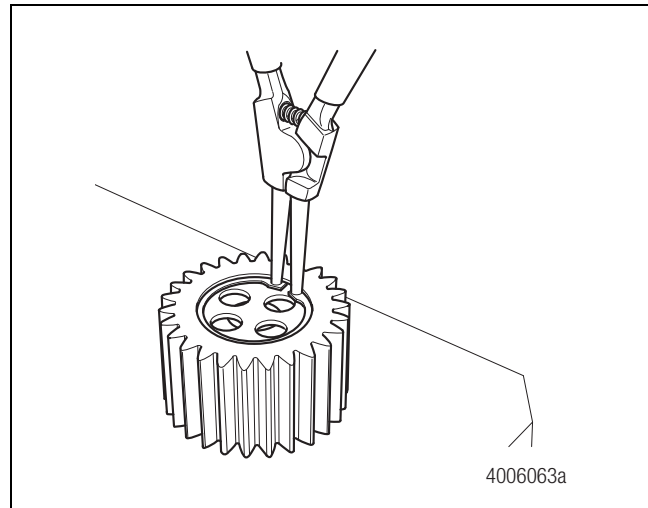
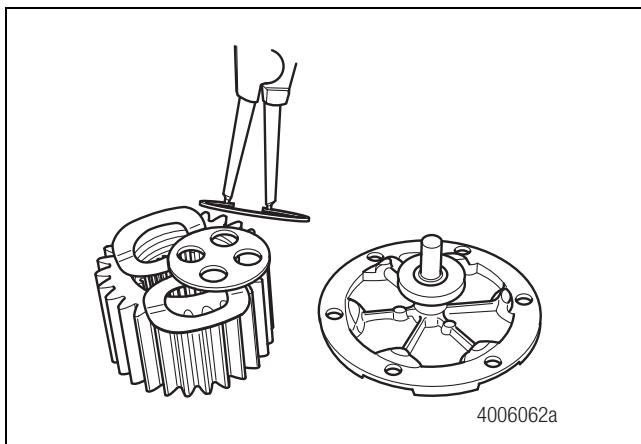

Figure 11.12
Figure 11.11
- 1. If removed, install the spring washers and thrust washer into the sun gear. Install the snap ring. Figure 11.11 and Figure 11.12.